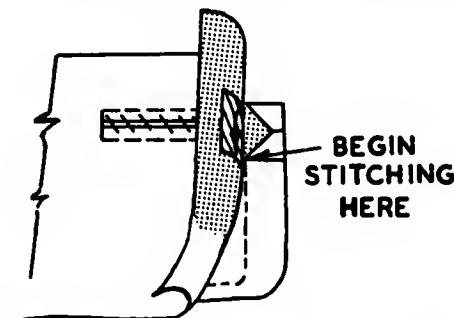

Fig. 142. Closing the pocket pouch.
- A. Fold the end of the pocket and stay so that the right sides are together and so that the triangle and pocket linings extend outward (Fig. 142).
- keeps the pocket from spreading (Fig. 142).